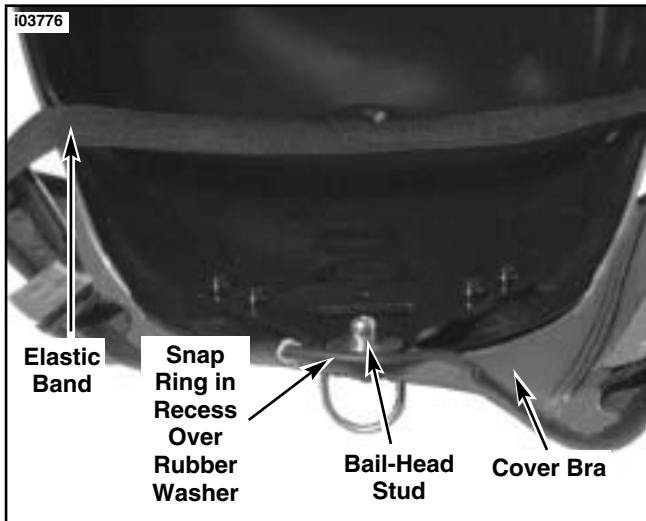

Figure 3. Install Bra To Rear Airbox Cover Mount
8. See Figure 3. Install bra on airbox cover as follows: